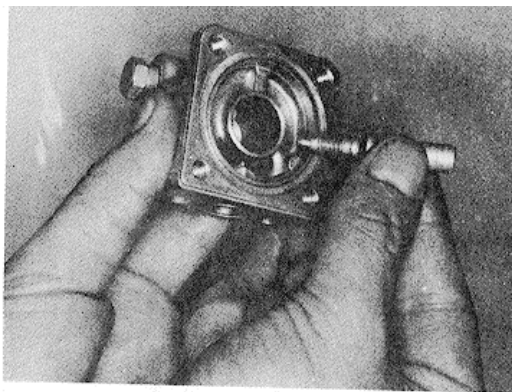

Fig. 5-39, F529. Installing override shaft
1. Install a new "O" ring on new override shaft and coat with lubricant. Fig. 5-39.